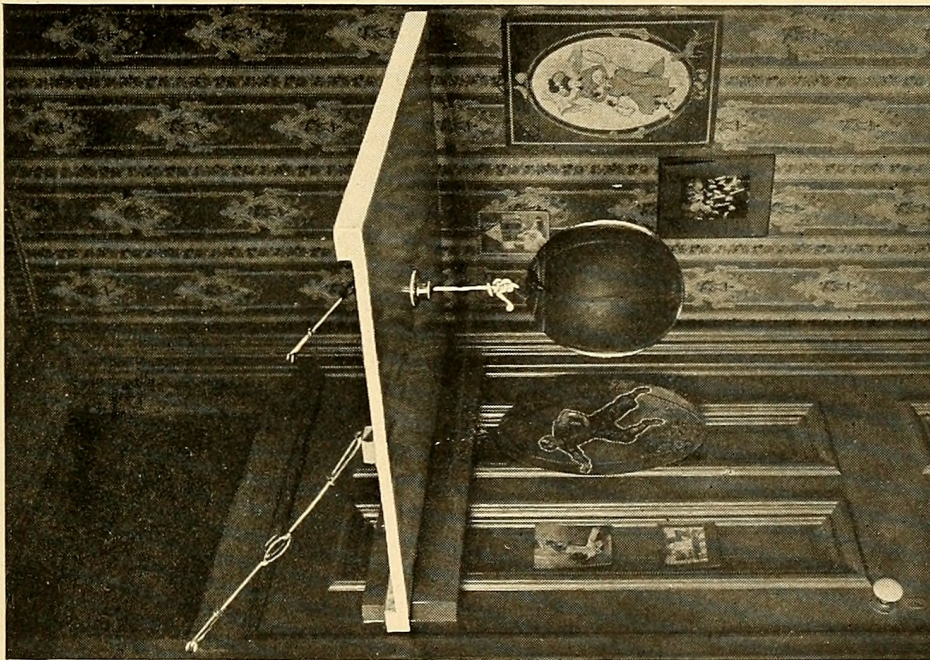

FIG. 210. WHERE TO HANG THE
**A Striking-bag Platform** in your room by making it detachable, as shown in Fig. 210, so that it may be removed and put out of the way when not in use.
leave a space wide enough for end *A* of the platform to fit in, and screw strip *G* to the door. If the door has raised panels (Fig. 210), block out strips *F* and *G* as shown in Fig. 213. Purchase two buck-saw *turnbuckles* at a hardware store, and fasten one end of each to the door *trim* with staples, at *H* and *I* (Fig. 212); put them just high enough so the lower ends will catch in hooks *D* and *E* (Fig. 211) when the platform is slipped between